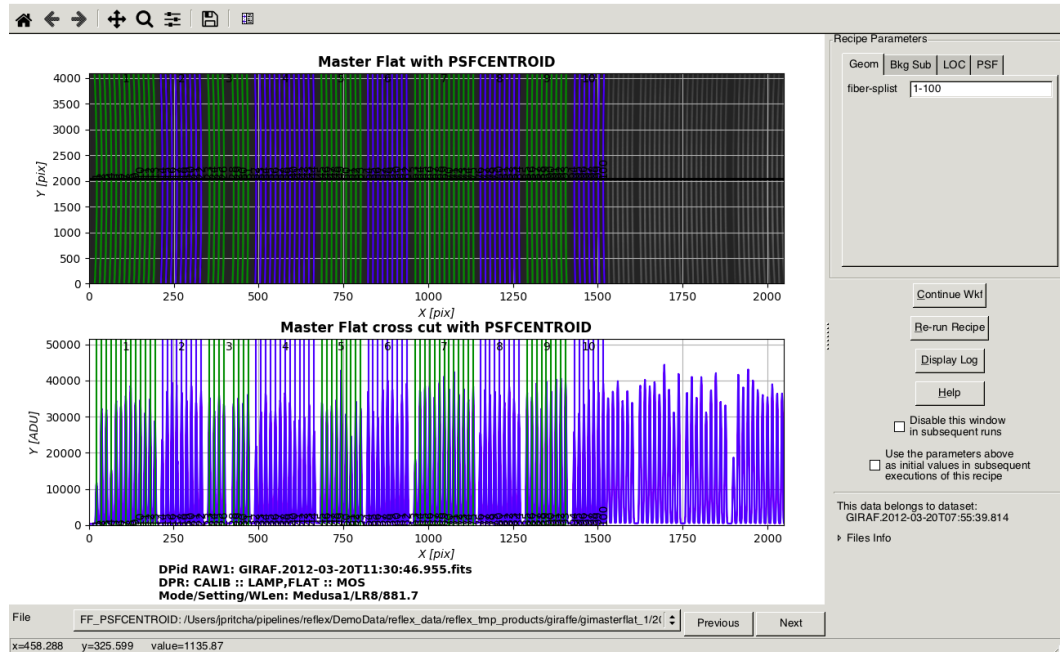

Figure 3.7: The MasterFlat Interactive GUI for the first dataset, after re-running the recipe with *fiber-splint* set to '1-100'.
- 11. Adjust recipe parameters:** Let's begin with something simple, but clear. In the `fiber-splint` field, replace the text 'setup' with '1-100'. Then click the `Re-run Recipe` button. The GUI window will close and the workflow will re-run the MasterFlat recipe. Eventually the GUI window will re-open, but only the first 100 fibres will now be traced, see figure 3.7.